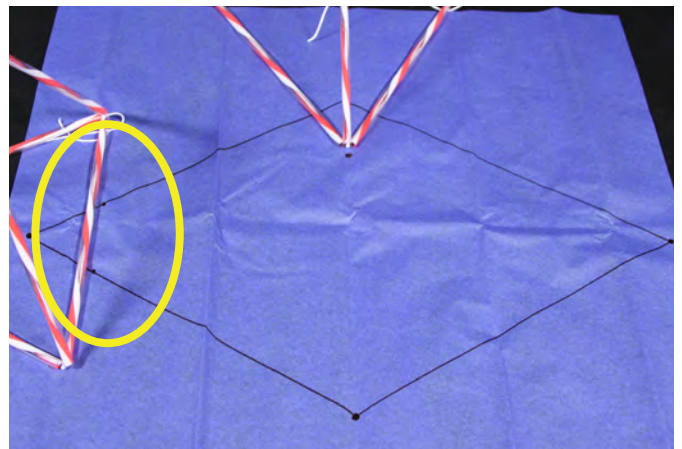

Fig. 10 Acute angle marking for template construction
3. Fold the paper so that it will fill the template shown below in figure 10.